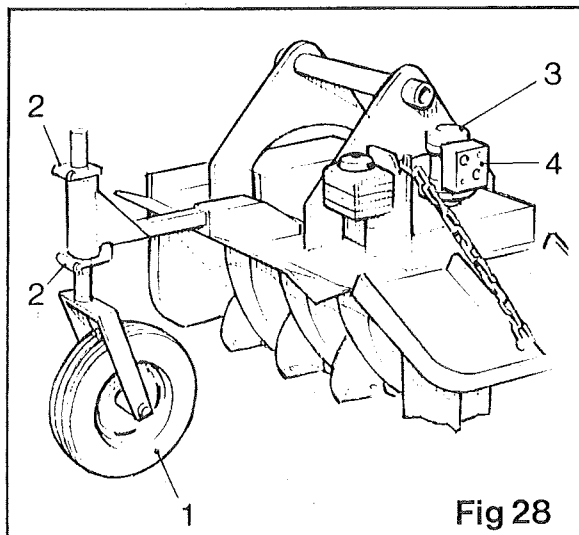

Fig 28
The depth of cut is determined by the depth wheel (item 1 fig 28) fitted at the front of the unit. To adjust the depth wheel, loosen the retaining screws in the depth wheel stop clamps (item 2 fig 28) and lift or lower the wheel according to the amount of topping required. Stop brackets (item 2 fig 26) fitted to the hydraulic ram are there to reduce the amount of float, should the depth wheel sink into the ground when travelling over undulating ground or soft soil patches. The size of gap between the stop plate (item 2 fig 26) and the hydraulic ram determines the amount the topper is allowed to drop. To adjust turn the lock nuts (item 5 fig 26) until the stop plate is in the correct position.
The rotors are driven by a hydraulic motor (item 3 fig 28) being fed from a 10 1/2 g.p.m. pump (item 1 fig 29) mounted on the harvester and driven from the tractor P.T.O. shaft, via a gear-box. The oil to the hydraulic pump is supplied from a tank mounted on the harvester. The tank should be filled with H68 nuto hydraulic oil or equivalent and should always be kept full, especially when storing the machine for long periods of time.
An aluminium check valve block (item 4 fig 28) is fitted which enables the rotors to slow down when the oil supply is shut off. The motor must always be connected to the oil supply via the check valve. Failure to do so will cause severe damage to the motor.